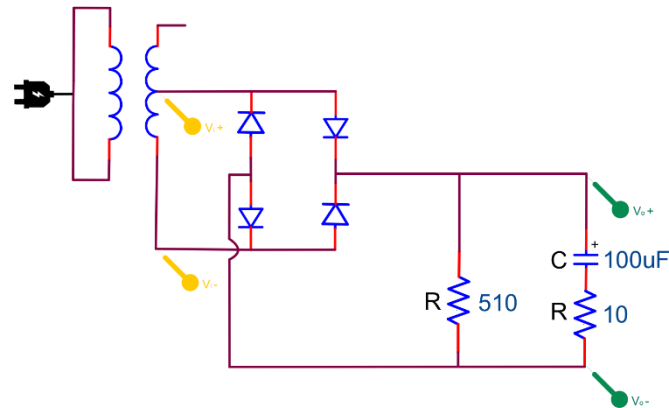

Figure 4.11
7. Construct Figure 4.11. Use the oscilloscope to measure this resistor voltage. Note that this voltage is proportional to the current flowing through the capacitor during charge and discharge.